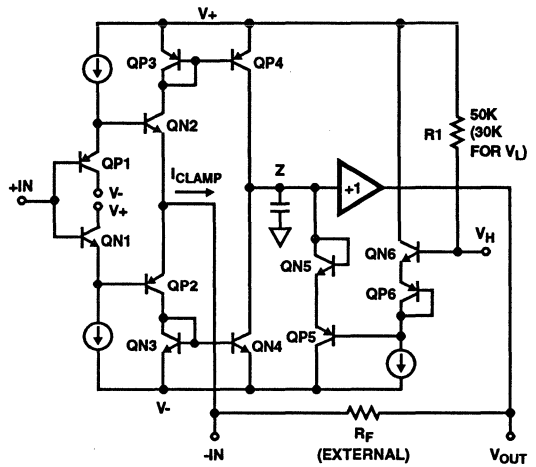

FIGURE 1. HFA1130 SIMPLIFIED V_H CLAMP CIRCUITRY
Figure 1 shows a simplified schematic of the HFA1130 input stage, and the high clamp (V_H) circuitry. As with all current feedback amplifiers, there is a unity gain buffer (QX1 - QX2) between the positive and negative inputs. This buffer forces $-IN$ to track $+IN$, and sets up a slewing current of $(V_{IN} - V_{OUT})/R_F$. This current is mirrored onto the high impedance node (Z) by QX3-QX4, where it is converted to a voltage and fed to the output via another unity gain buffer. If no clamping is utilized, the high impedance node may swing within the limits defined by QP4 and QN4. Note that when the output reaches its quiescent value, the current flowing through $-IN$ is reduced to only that small current ($-I_{BIAS}$) required to keep the output at the final voltage.
The clamped output voltage will not be exactly equal to the voltage applied to V_H or V_L . Offset errors, mostly due to V_{BE} mismatches, necessitate a clamp accuracy parameter which is found in the device specifications. Clamp accuracy is a function of the clamping conditions. Referring again to Figure 1, it can be seen that one component of clamp accuracy is the V_{BE} mismatch between the QX6 transistors, and the QX5 transistors. If the transistors always ran at the same current level there would be no V_{BE} mismatch, and no contribution to the inaccuracy. The QX6 transistors are biased at a constant current, but as described earlier, the current through QX5 is equivalent to I_{CLAMP} . V_{BE} increases as I_{CLAMP} increases, causing the clamped output voltage to increase as well. I_{CLAMP} is a function of the overdrive level $(V_{IN} - V_{OUT \text{ clamped}})$ and R_F , so clamp accuracy degrades as the overdrive increases, or as R_F decreases. As an example, the specified accuracy of $\pm 60mV$ for a 2X overdrive with $R_F = 510\Omega$